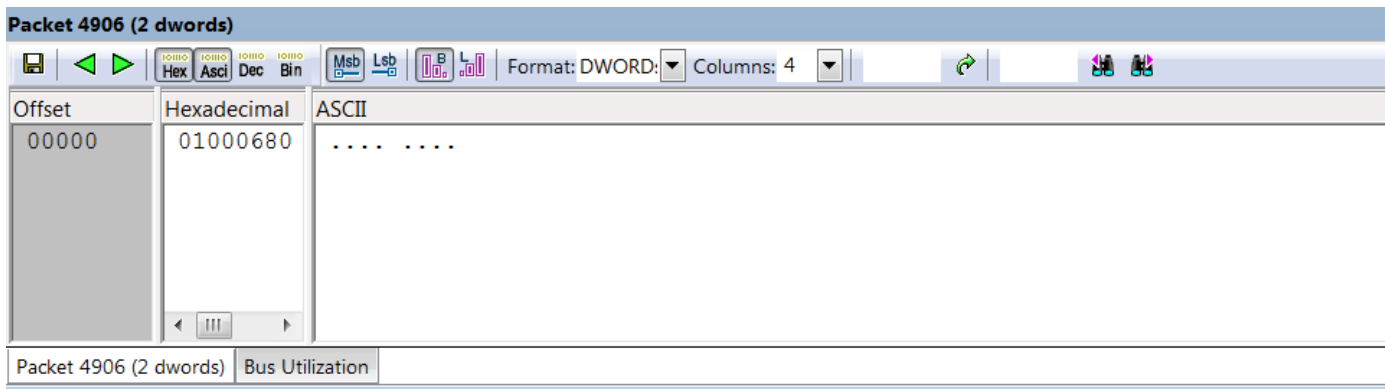

Figure 5.29: Data Block Dialog
2. Select **View Data Block** or the  **Data View** button to open the Data Block dialog box (see Figure 5.29 on page 174).